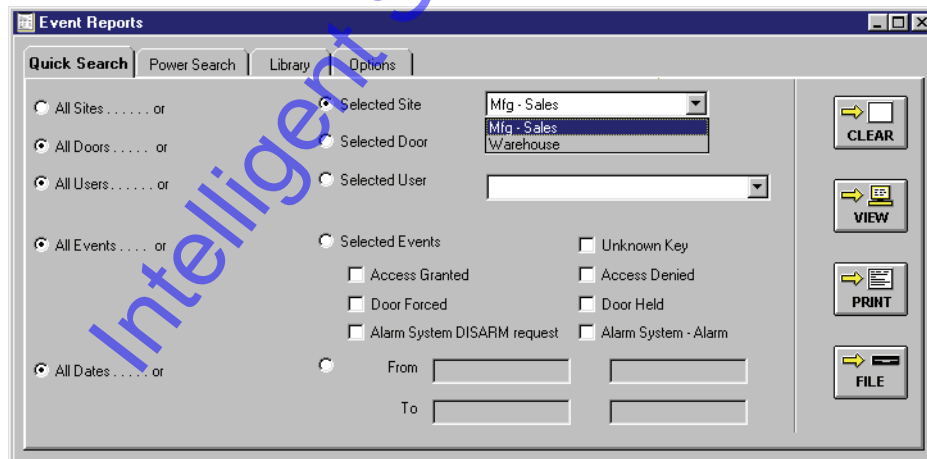

Figure 8-22: Quick Search, Selected Site List
2. To select one site, click on the **Selected Site** radio button. A list of all available sites appears in the window (see Figure 8-22).